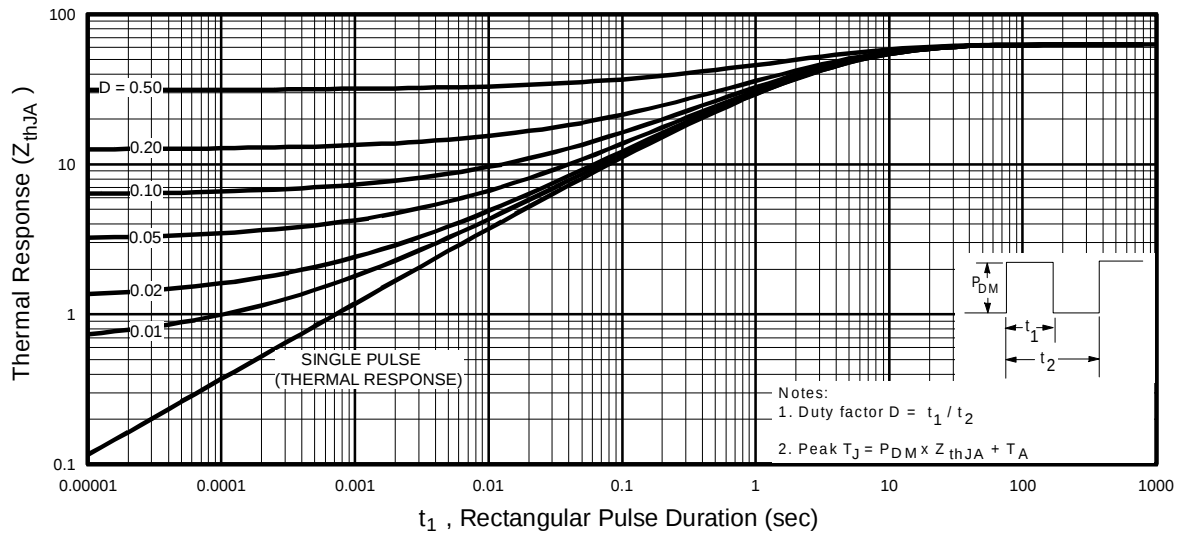

Fig 23. Maximum Effective Transient Thermal Impedance, Junction-to-Ambient
① Repetitive rating; pulse width limited by max. junction temperature. (See fig. 23)
② N-Channel $I_{SD} \leq 2.3A, di/dt \leq 100A/\mu s, V_{DD} \leq V_{(BR)DSS}, T_J \leq 150^\circ\text{C}$